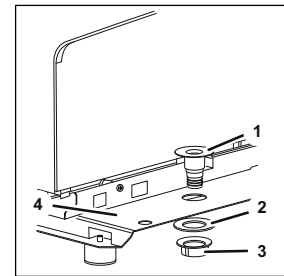

Fig. 10
1. Position the drain fitting (Fig. 10/1) in the bottom of the unit from above.
2. Slide the flat seal (Fig. 10/2) over the thread from below and use the fastening nut (Fig. 10/3) to attach the drain fitting (Fig. 10/1).